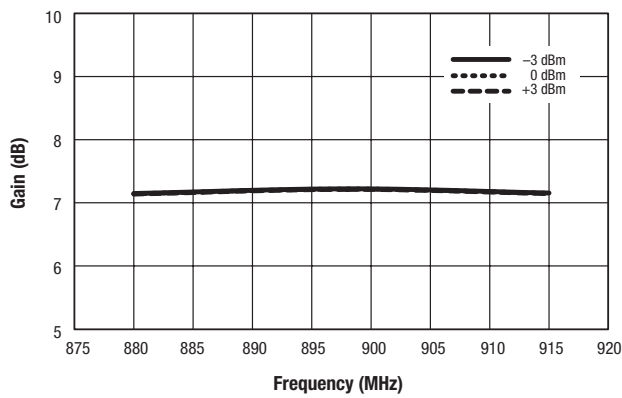

Figure 3. Mixer A Gain vs Frequency and LO Power
Typical performance characteristics of the SKY73020-11 are illustrated in Figures 3 through 39.
4. Components L5, L6, L14, and L15 (see Figure 3) are high-Q, low-loss inductors. These inductors must be able to pass currents in excess of 200 mA DC.
5. Components R1 and R2 (see Figure 3) allow for external adjustment of the IF amplifier bias points. For operation as specified in Tables 3 and 4, these resistors are not required.